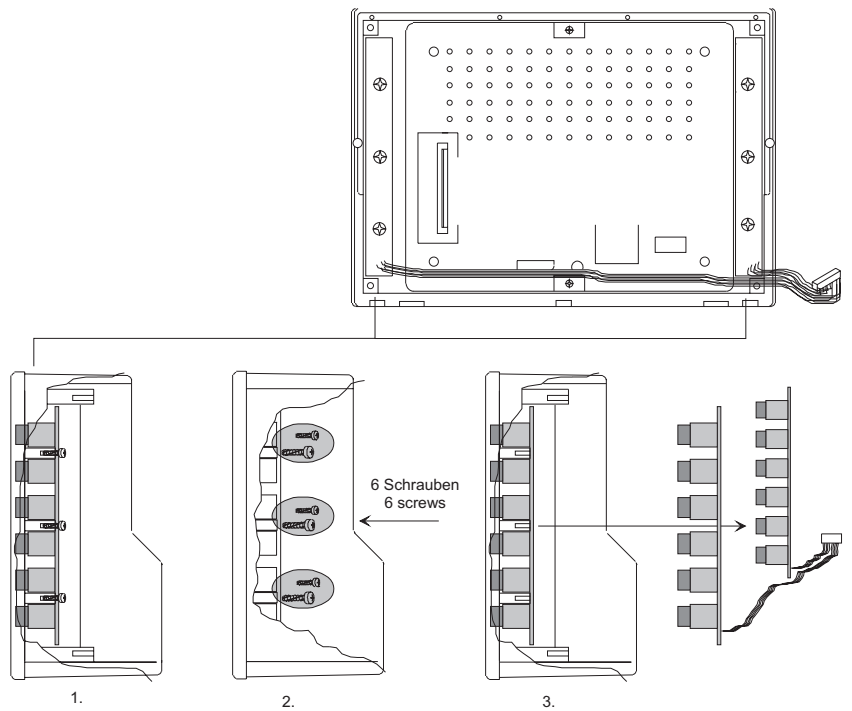

Fig 8-8: Installation of switch pcb
12. Place both switch pcb's inside the new display unit and fix them by the use of six screws. (fig. 8-8)